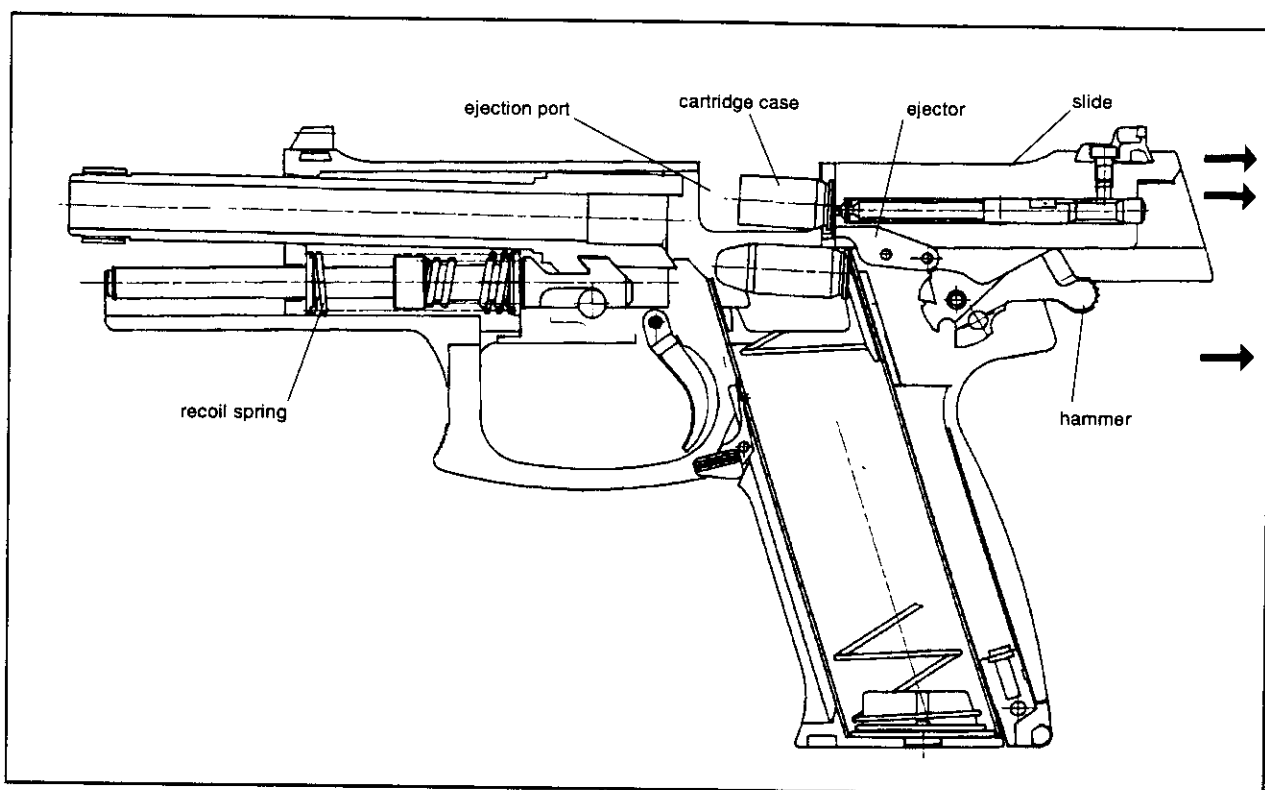

Figure 7 Ejection
- D. **Ejection** - (See Figure 7) -The rim of the cartridge case strikes the stationary ejector. The empty case is ejected from the open ejection port.
- E. **Cocking** - (See Figure 7) - As the slide continues rearward the recoil impulse is dampened by the buffer spring. The recoil spring is compressed and the hammer recocks.